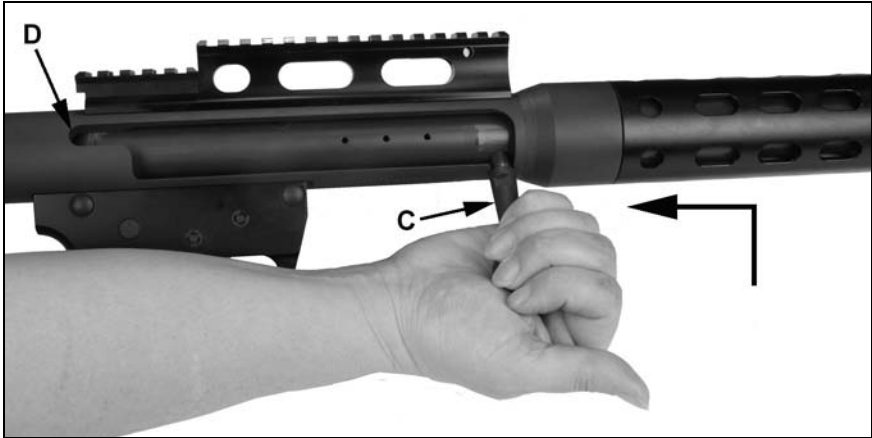

Figure 23
2. Lift up on bolt (C) and pull back into slot (D) in one smooth motion. See figure 23.